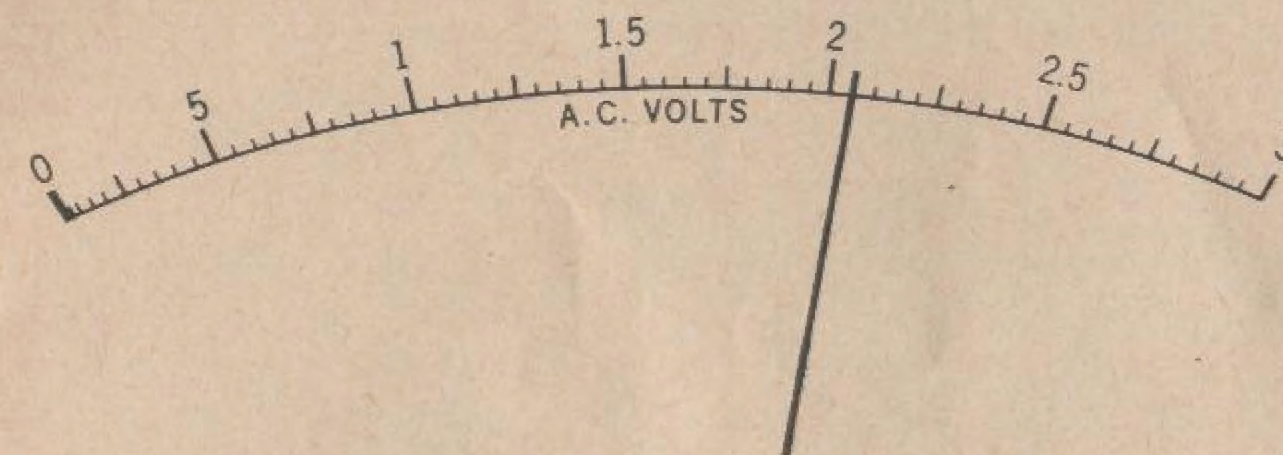

Figure 9—3V A.C. Scale
7. The lowest A.C. range is 3 volts A.C. full scale. Each division on this scale represents .05 volts. Fig. 9 shows this scale with the pointer at rest on the first small division above 2 volts. Therefore, the meter reads 2.05 volts.